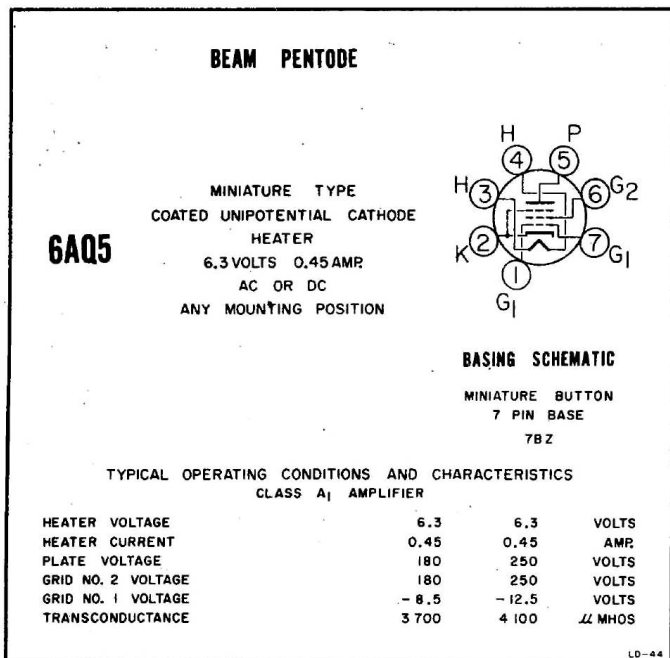

Figure 4-1. Condensed 6AQ5 Tube Data
b. Consult a standard tube data handbook for the specific tube to be tested. See figure 4-1 below for a condensed version of such information. This condensed version eliminates data not pertinent to tube testing.
c. Set the first (left) FILAMENT selector on position C. This is the third switch position (counting A=1, B=2, and C=3) and connects to pin three of the tube under test. See figure 4-1 for tube basing. Pin 3 connects one side of the filament of the tube.
i. Set the CATHODE selector switch on position B. This is the second switch position and connects to pin 2 of the tube under test. Pin 2 connects to the cathode of the tube. It also has an internal connection to a third grid. See figure 4-1.
c. Depress the Gm LOCK (S4) push switch and observe the test meter reading on the 10000 scale. Since the tube data book (figure 4-1) calls for 3700 μ mhos transconductance with 180 volts on the plate, 180 volts on the screen (grid 2) and 8.5 volts on the control grid (grid 1) the meter pointer should indicate approximately that amount. The minimum acceptable reading under these conditions is 2300 μ mhos. This amount represents 63% of the design center of 3700 μ mhos. Any reading below 2300 indicates the tube should be discarded.